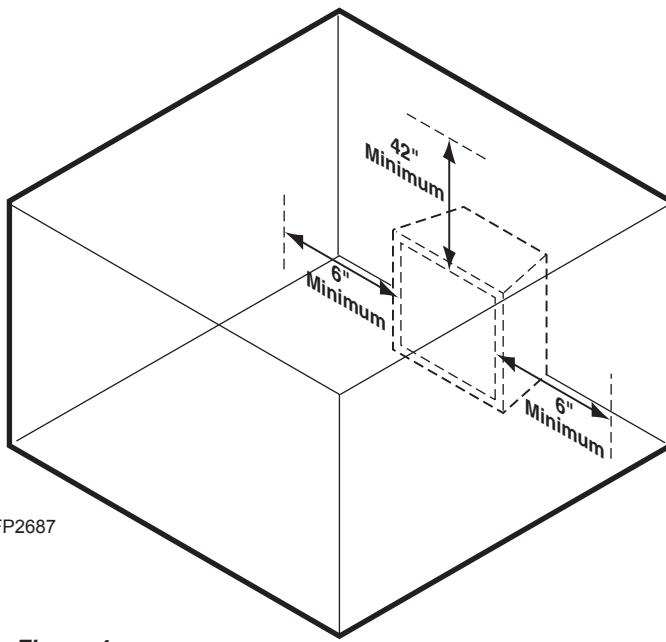

Figure 4 -
Ensure that minimum clearances shown in Figures 4 through 7 are maintained. Left and right clearances are determined when facing the front of the firebox.
1. **Sidewall clearances:** The clearance from the inside of the appliance to any combustible wall should not be less than 6". *Figure 4*
2. **Ceiling clearance:** The ceiling must be at least 42" from the top of the firebox opening. *Figure 4*